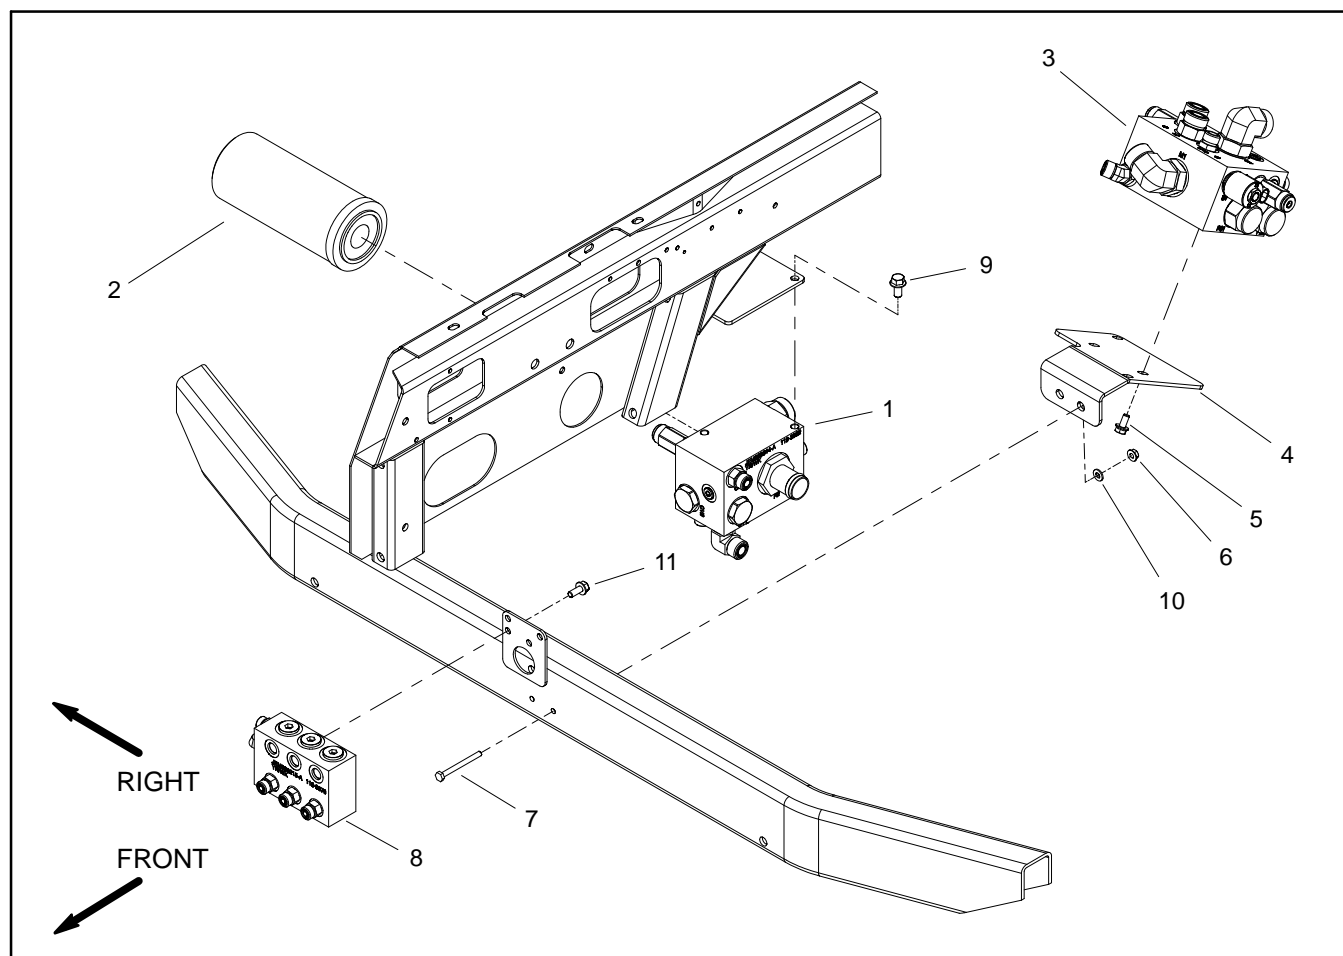

Figure 91
Removal (Fig. 91)
5. Remove hydraulic manifold from the frame using Figure 91 as guide.
Installation (Fig. 91)
2. Install hydraulic manifold to the frame using Figure 91 as guide.